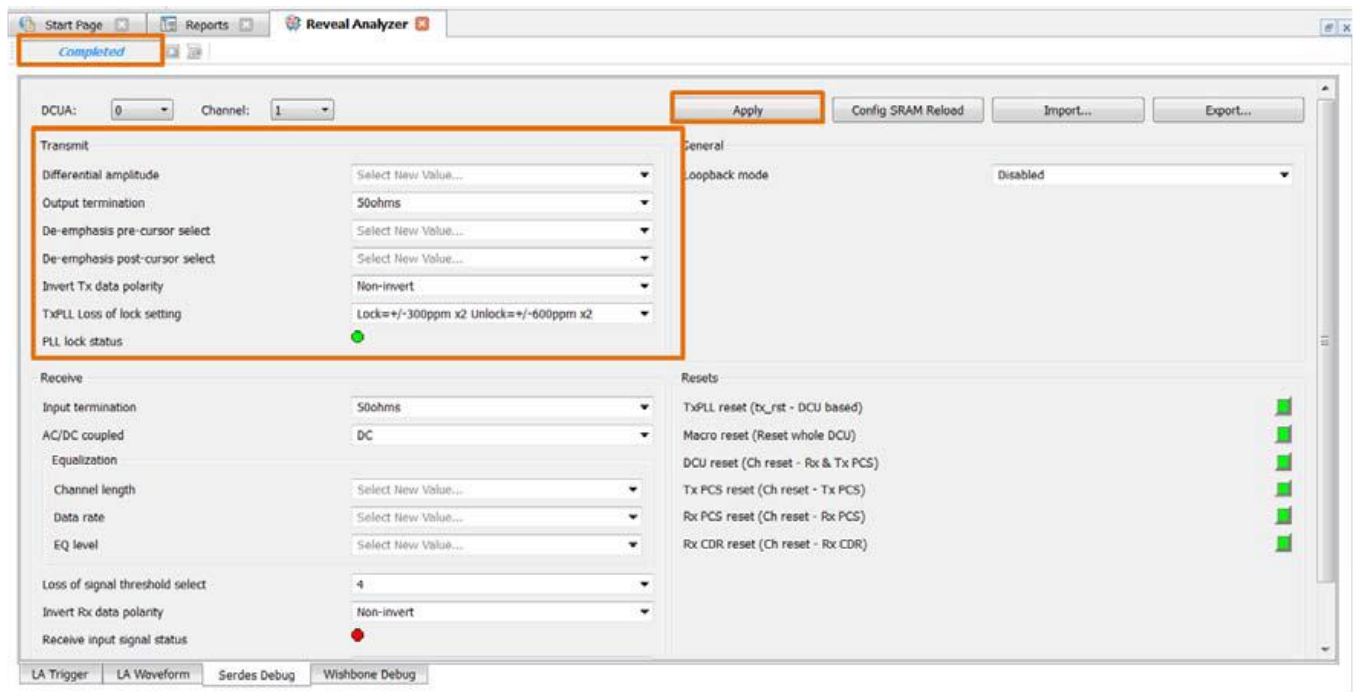

Figure 8.5. SERDES Debug Window
- Figure 8.5 shows the SERDES Debug window in Reveal Analyzer. The transmit behavior of the SERDES can be updated using the drop-down menus shown. Once the transmit configuration is changed in SERDES Debug, click the **Apply** button.
7. Figure 8.5 shows the SERDES Debug window in Reveal Analyzer. The transmit & receive behavior of the SERDES can be updated using the drop-down menus shown. Once the SERDES configuration is changed, click the Apply button. The top left corner of the interface indicates the status of new SERDES setting.